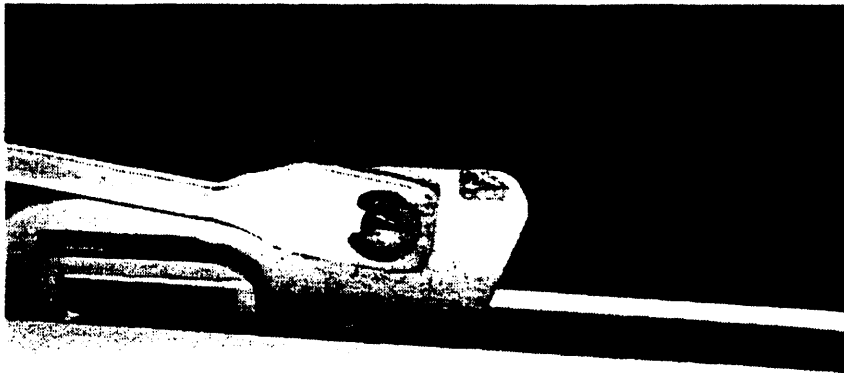

Figure 6-2. Computer-Lid Rocker
3. Using needlenose pliers or a small screwdriver, remove the E-rings from the two small rocker pins (see figure 6-2). *Be careful not to drop the E-rings inside the case.*